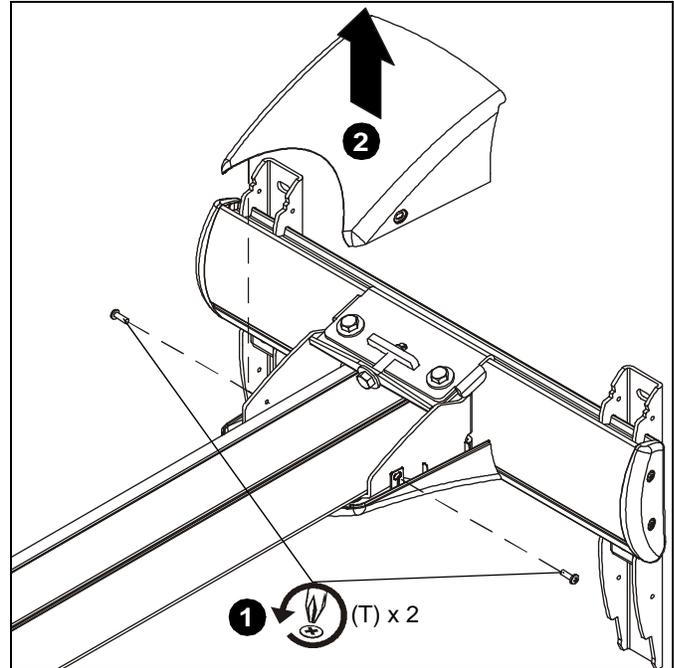

Figure 17
1. Remove and save two 8-32 x 1/2" Phillips pan head screws from upper cover. (See Figure 17)
2. Raise upper cover away from the mount. (See Figure 17)